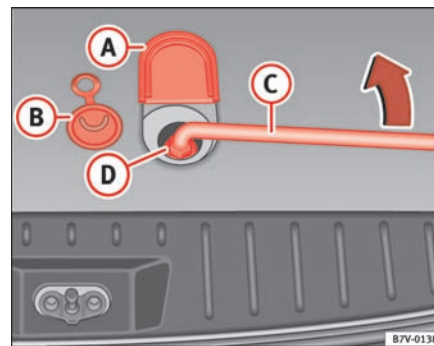

Fig. 153 Taking out the spare wheel
1. Lift the cover ① ⇒ fig. 153 located on the floor of the luggage compartment, next to the tailgate lock.
2. Pull the ring of the rubber seal ② upwards.
3. Remove the box spanner ③ from the vehicle tools.
4. Fit the box spanner on the bolt, to the maximum, and hold in this position. At the same time press the safety ring ④ downwards ⇒ .
5. Turn the box spanner ③ several times to the left, until the spare wheel can be fitted, hanging from a wire, vertically behind the vehicle.
4. Remove the box spanner $\Rightarrow$ page 232, fig. 153 (C) and turn the bolt on the floor of the luggage compartment several times to the right, until the defective wheel is firmly secured against the inside of the luggage compartment floor $\Rightarrow$! in “Taking out the spare wheel” on page 232.
5. Close the opening with the rubber seal $\Rightarrow$ page 232, fig. 153 (B) and lower the cover (A).